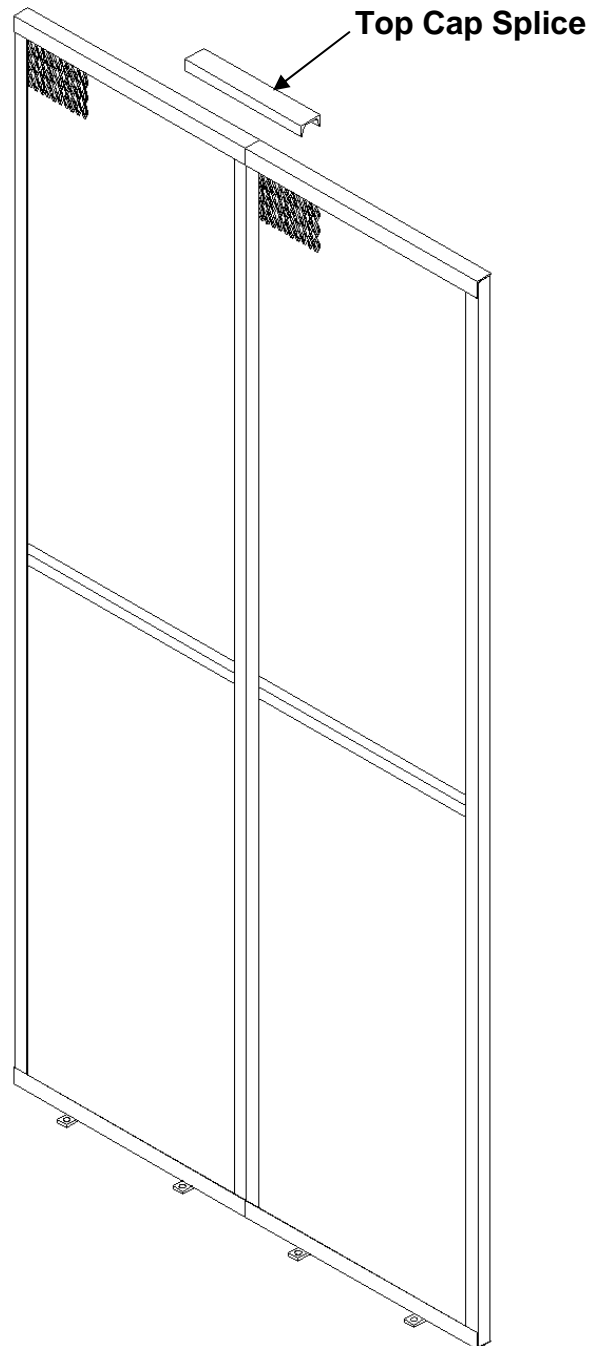

Figure 20 – Top Cap Splice
5. Mount the 12” long stiffener angle across the top of the enclosure panel and attach using TEK screws (see **Figure 20**).